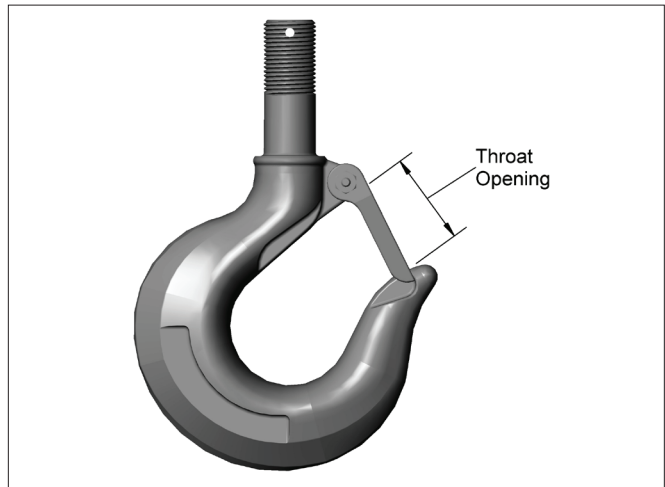

FIGURE 4-3. HOOK THROAT OPENING
- Check hooks for deformation, chemical damage, or cracks. Bent hooks or hooks damaged from chemicals, deformation, cracks, or having excessive throat opening (see Figure 4-3) should be replaced. Visible deformation of any hook may be evidence of hoist abuse and overloading and indicates that a thorough inspection of the complete hoist should be made.